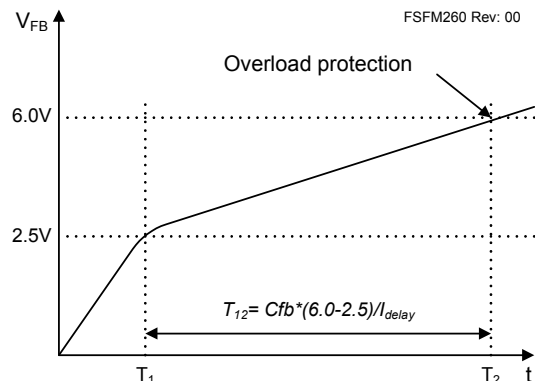

Figure 20. Overload Protection
3.1 Overload Protection (OLP): Overload is defined as the load current exceeding a pre-set level due to an unexpected event. In this situation, the protection circuit should be activated to protect the SMPS. However, even when the SMPS is in the normal operation, the overload protection circuit can be activated during the load transition. To avoid this undesired operation, the overload protection circuit is designed to be activated after a specified time to determine whether it is a transient situation or an overload situation. Because of the pulse-by-pulse current limit capability, the maximum peak current through the SenseFET is limited and, therefore the maximum input power is restricted with a given input voltage. If the output consumes beyond this maximum power, the output voltage (V_O) decreases below the set voltage. This reduces the current through the opto-coupler LED, which also reduces the opto-coupler transistor current, increasing the feedback voltage (V_{FB}). If V_{FB} exceeds 2.5V, D1 is blocked and the $5\mu A$ current source starts to charge C_B slowly up to V_{CC} . In this condition, V_{FB} continues increasing until it reaches 6V, when the switching operation is terminated, as shown in Figure 20. The delay time for shutdown is the time required to charge C_B from 2.5V to 6.0V with $5\mu A$. In general, a 10 ~ 50ms delay time is typical for most applications.